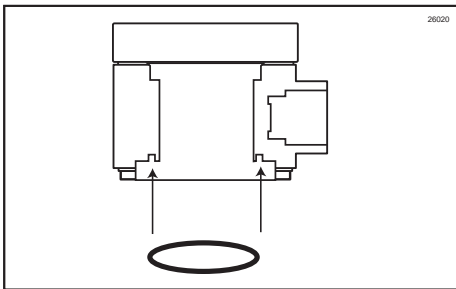

Figure 97
- Place the larger o-ring into the groove on the underside of the Injector Head. (See Figure 97.)